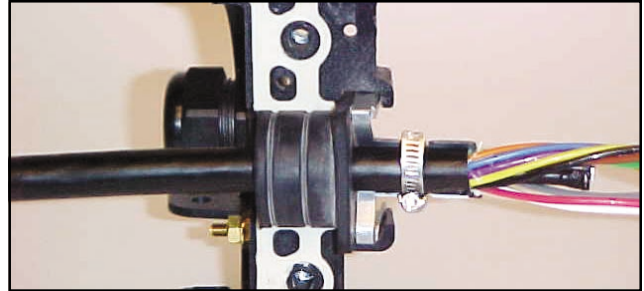

Figure 15
- 8.3.1 Align the top end plate to the bottom and gently ease the two Multicentric grommets into their storage position. See Figure 15